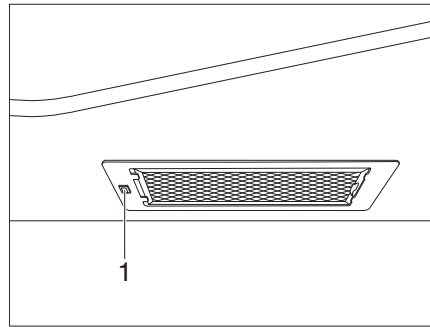

Fig. 263 Extractor hood
- Use the switch (Fig. 263,1) to turn the extractor hood on and off.